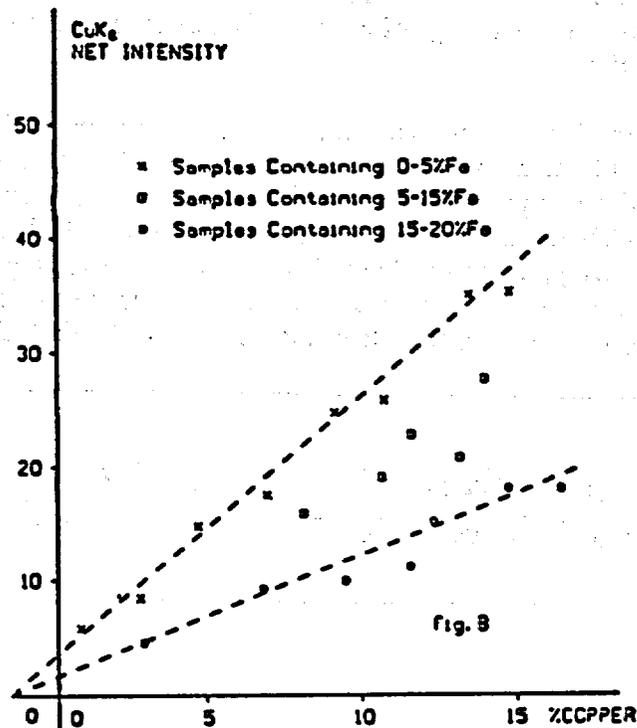

Figure 2.5 Demonstration of matrix effects on the measured intensities.
When significant matrix effects are present, linear matrix corrections will give more accurate results than a simple calibration line. Figure 2.5 shows a typical case of matrix effects discovered as the calibration line was plotted for an element. The variation of iron content clearly has effect on the detected CuK intensities. If the net intensity of iron is included in a linear matrix equation for copper intensity, the errors due to iron interference can be partially eliminated. In this example, because iron clearly effects the slope of Cu, a better equation than a simple line would be as in eq. (9), i.e. the independents would be: 1. Cu ; 2. Fe \* Cu